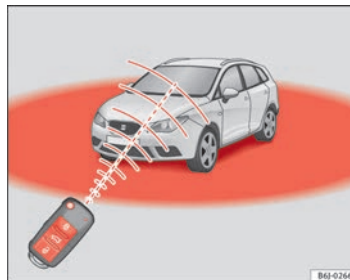

Fig. 47 Range of the radio frequency remote control
Also, the battery indicator on the key \Rightarrow Fig. 47, will flash.
- The radio frequency remote control key functions only when you are within range ⇒ Fig. 47.